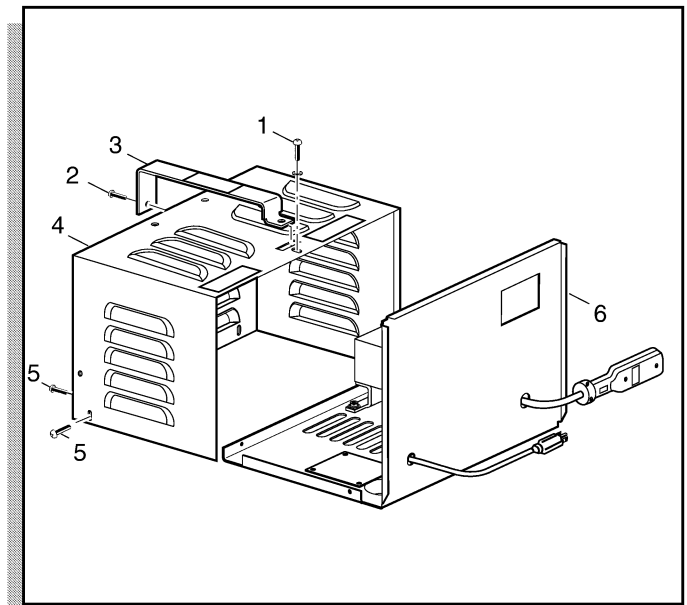

Fig. 1 Opening the Charger
| Fig. 1 Opening the Charger.....                         | K - 1 |
1. Remove the screws (1 and 2) securing the front and rear of the handle (3) (Ref Fig. 1 on page K-1). This handle acts as a “key” and must be removed to permit the charger cover (4) to be removed.
2. Remove remaining screws (5) from sides and cover.
3. Tilt rear of the cover up and forward to release it from the front face (6) of the charger.